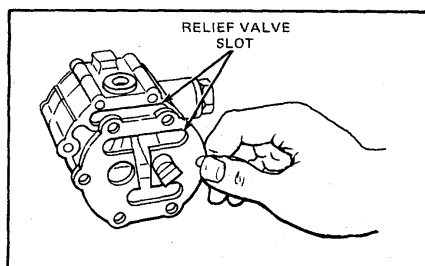

Figure 2.
1. Install a new gasket. Make sure the new gasket is properly installed (refer to Fig. 2). If positioned wrong the relief valve port is covered by the gasket.